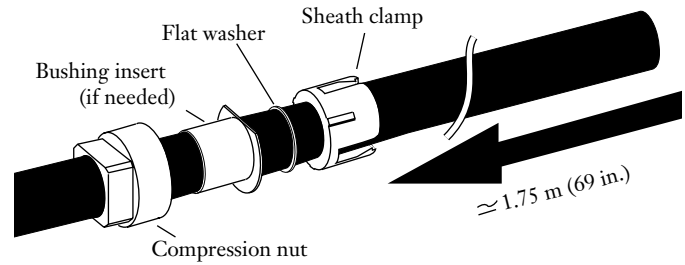

Figure 2
4.3 Slide the compression nut, bushing insert (if needed), flat washer, and sheath clamp over the end of the cable and slide them 1.75 m (69 in.) down the cable (Figure 2).